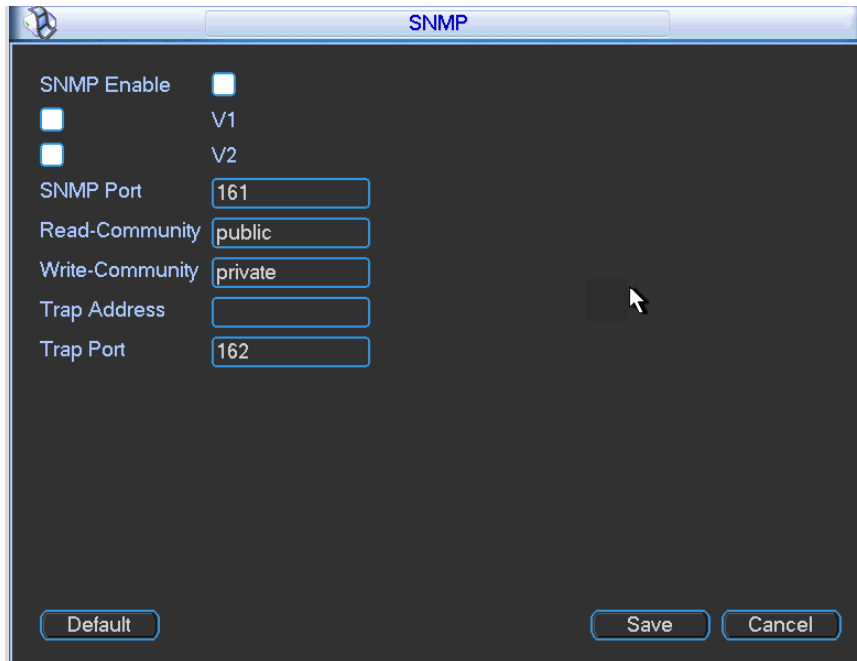

Figure 3-49
1. In Figure 3-49 above, check the box to enable the SNMP function. Input the IP address of the PC than is running the software in the Trap address. You can use the default setup for the rest of the items.